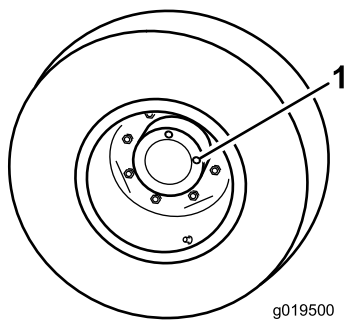

Figure 69
1. With machine on level surface, position the wheel so 1 check plug is at the 12 o'clock position and the other is at 3 o'clock position (Figure 69).
1. Check/drain plug (2)
2. Remove the plug at the 3 o'clock position (Figure 69).